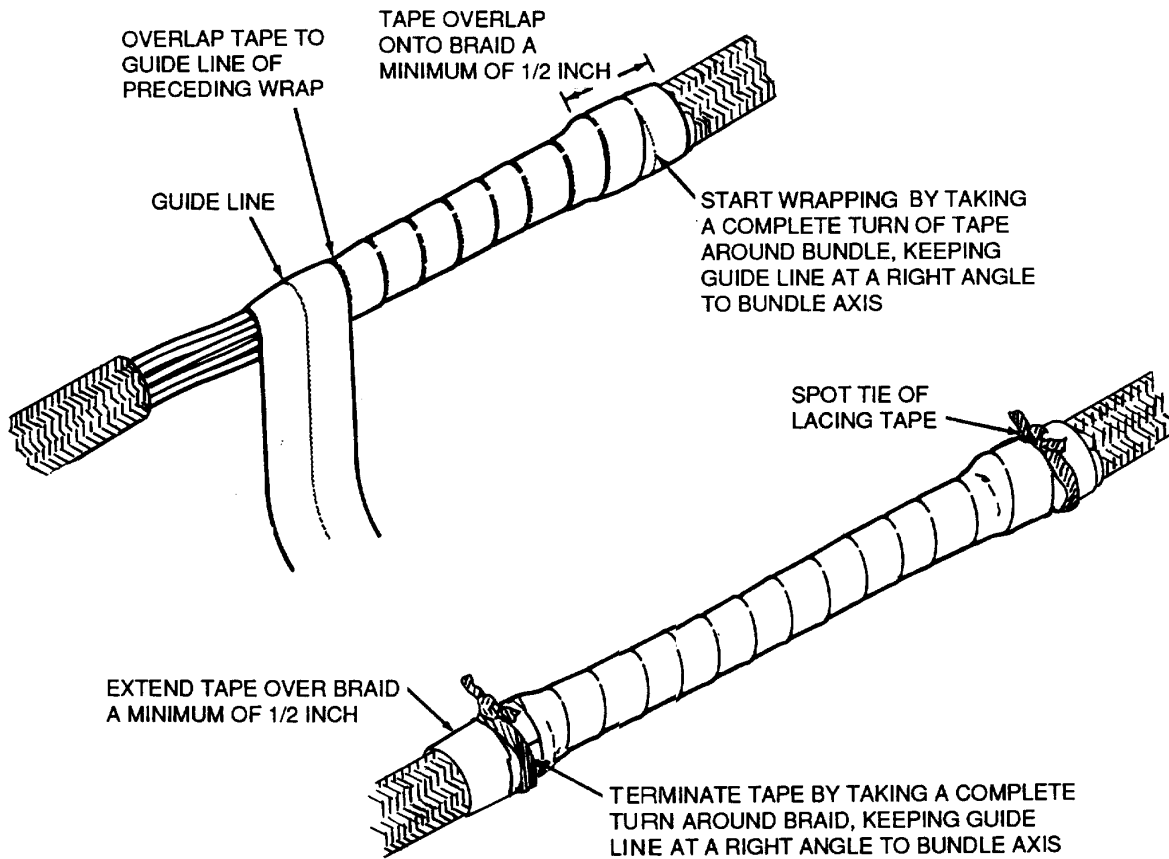

Figure 10. Tape Braid Repair
d. Repair the bundle braid exposed area as follows (Figure 10):